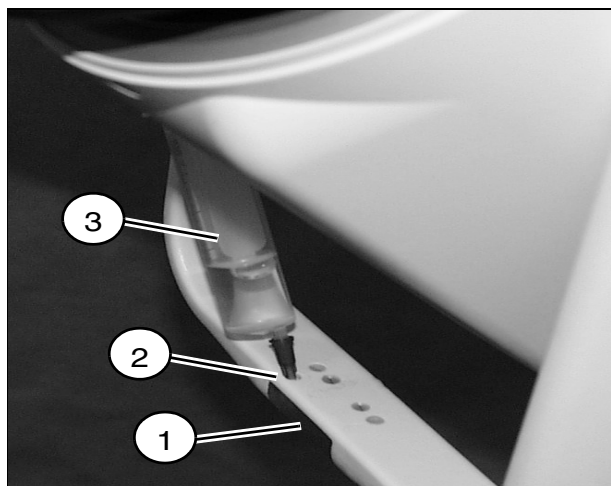

Fig. 5
- Check that the isocenter phantom (1/Fig. 5) is filled with water, if not remove the screw (2/Fig. 5) and fill water with a syringe (3/Fig. 5).